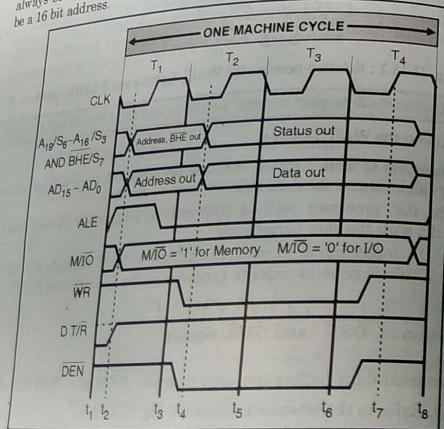

Fig. 11.19.1 : Write machine cycle in the 8086 minimum mode with wait T-state
- Let us now see the activities taking place in the write machine cycle of 8086 in its minimum mode. The timing diagram for the write machine cycle is shown in Fig. 11.19.1. This timing diagram is very much similar to the timing diagram of the read machine cycle discussed earlier.